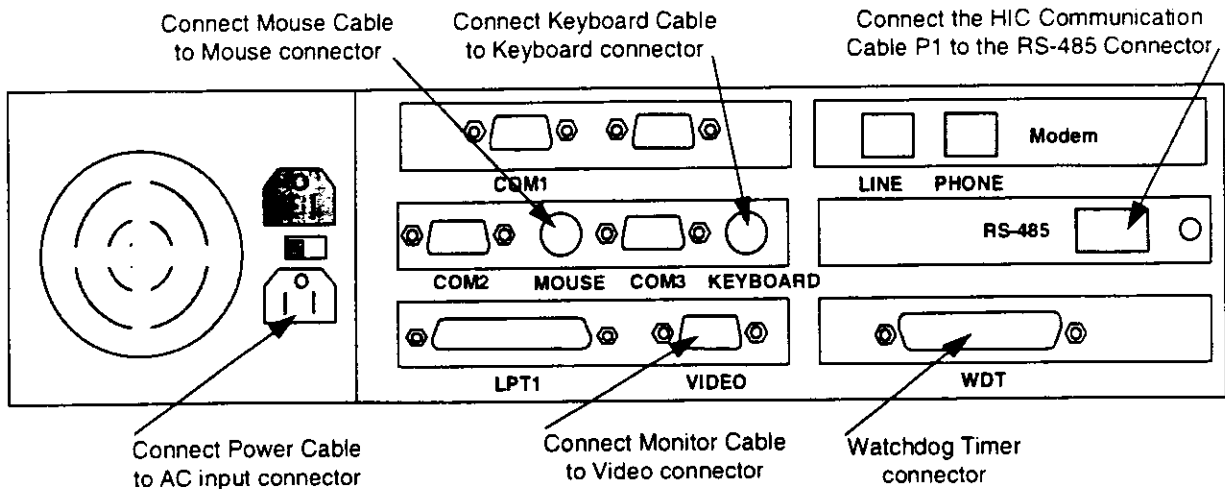

Figure 5-2. HECU Computer Rear View
- b. At the Computer rear panel (Figure 5-2), disconnect all cables from the rear of the chassis.
- i. At the computer rear panel (Figure 5-2), connect the following: